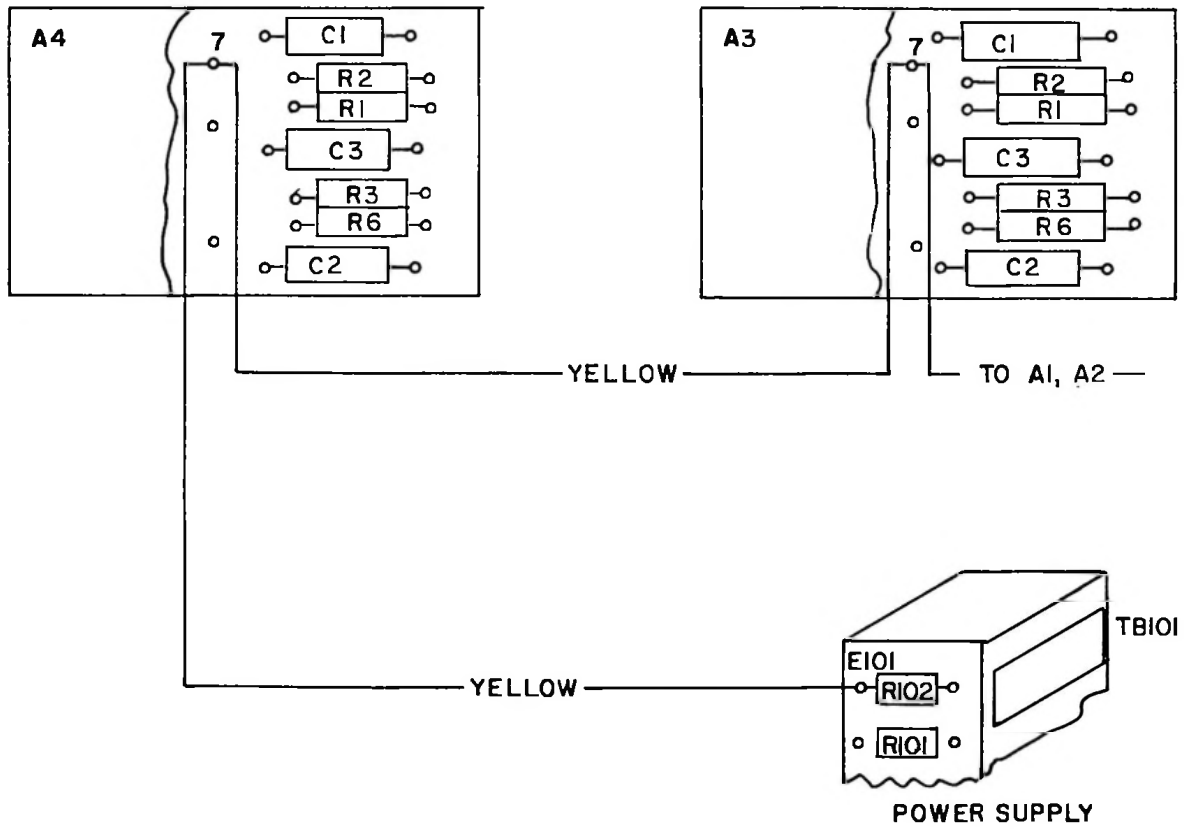

Figure 2. Partial Pictorial View of 808A-1 Console - Before Modification
8. Cut and remove the no. 26 AWG yellow wire connected between the equalized preamplifier subassembly A3 terminal 7 and the booster amplifier subassembly A4 terminal 7. (Refer to figures 2 and 3.)